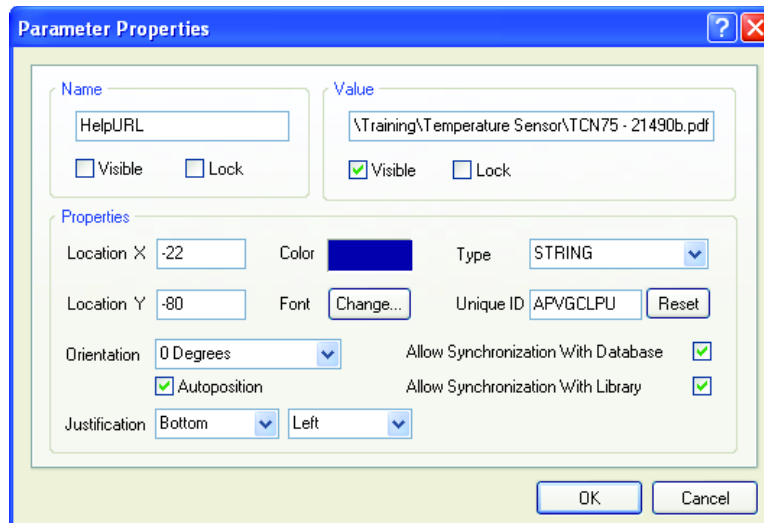

Figure 6. Add the HelpURL parameter to link the datasheet to the component.
7. Type a backslash (\) character at the end of the string, then type in the name of the PDF, namely: `TCN75 - 21490b.pdf`, as shown in Figure 6.